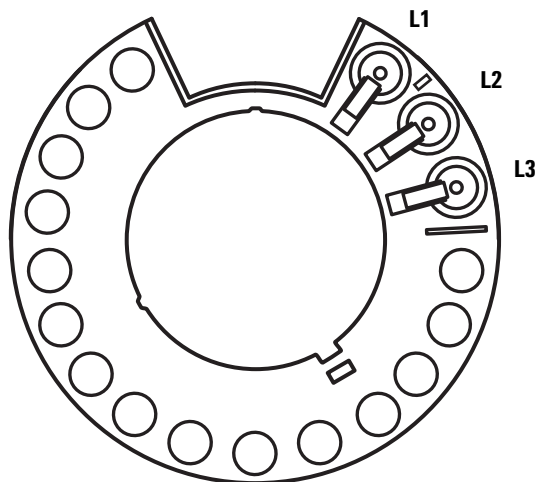

Figure 21 Transfer turret positions L1, L2, L3 (top view)
- 2 Remove any vials from transfer turret positions L1, L2, and L3 for all installed injectors (Figure 21).